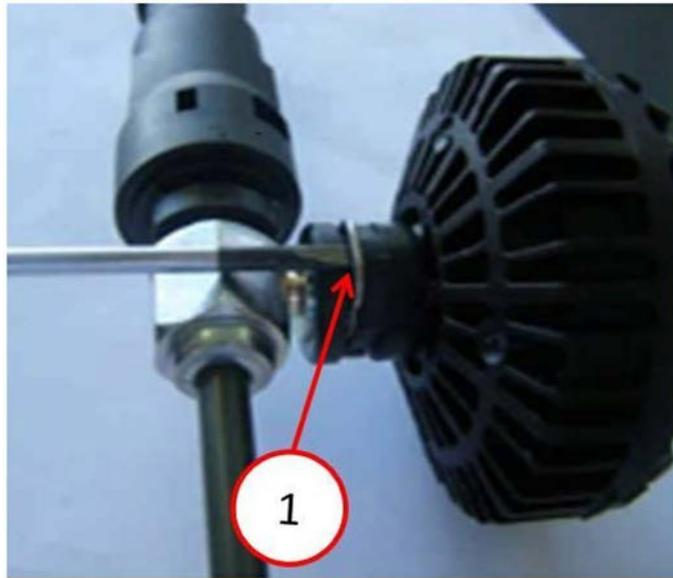
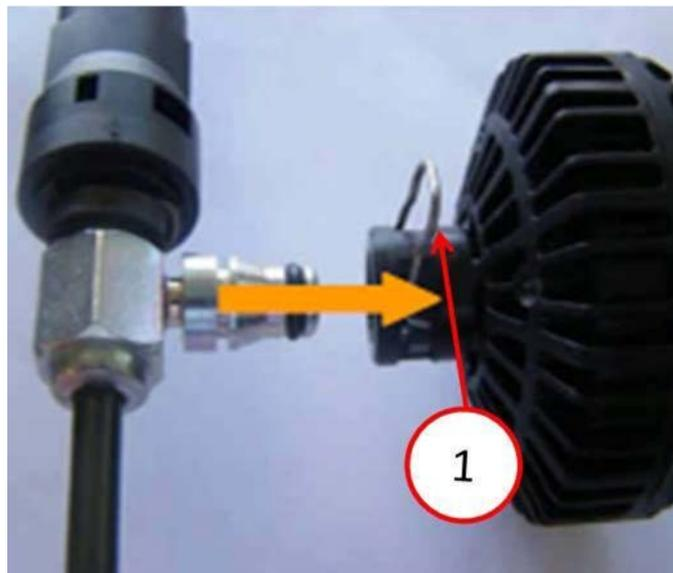

Fig. 4 Clutch damper
Fig. 5 Clutch damper
3. Locate the damper and rotate it so that you can see the damper retaining clip (Fig. 4).
4. Pull the retaining clip out to the stop, remove the damper and discard it (Fig. 4) and (Fig. 5).